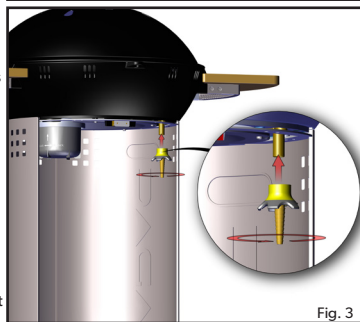

Fig. 3
- **NOTE!** When installing the tailpiece, ensure it is held straight while tightening the tailpiece nut, in order to prevent a possible gas leak. Tighten with a suitable spanner or hand wheel (Fig. 3).